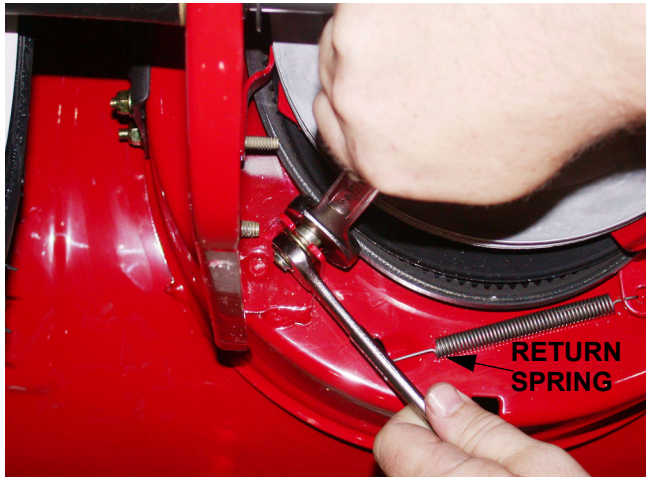

Figure 3.9
- 3.9. Loosen the belt guide (shoulder bolt) with a 3/4" wrench and a 9/16" wrench. See Figure 3.9.